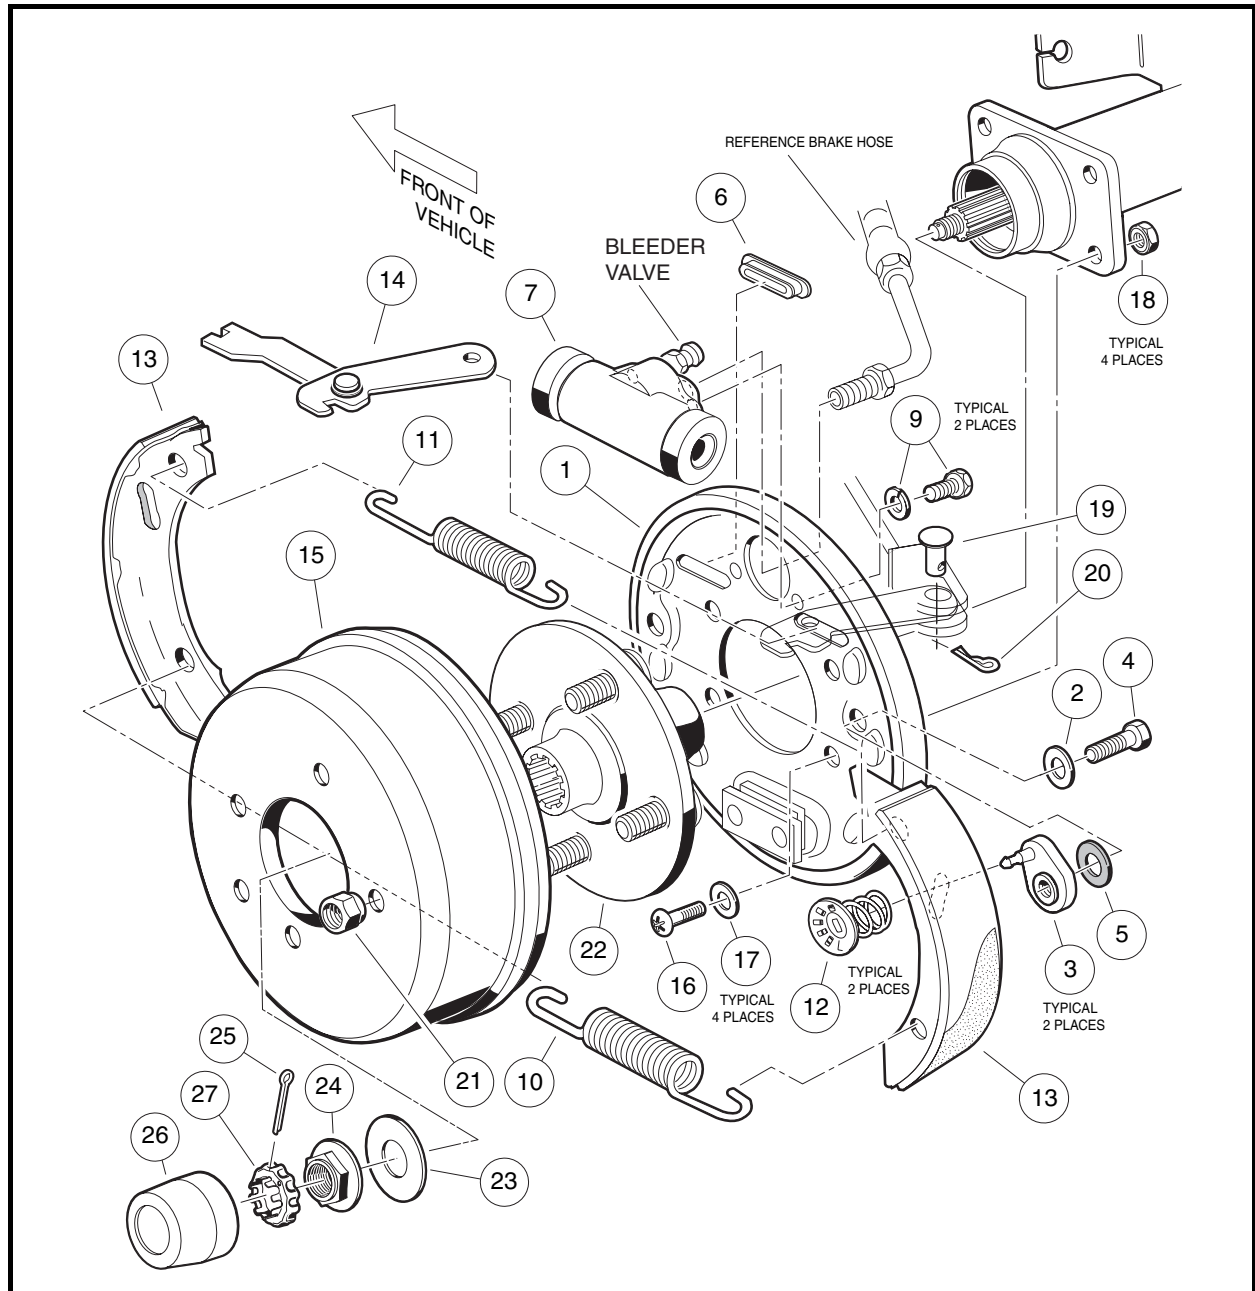

Figure 6-19 Rear Hydraulic Brake Cluster Assembly
1. Place the brake drum (15) onto the wheel bolt flange and brake cluster (**Figure 6-19, Page 6-21**). See following **NOTE**.
- Do not apply more than 65 in-lb (7.3 N·m) of torque to any of the adjuster bolts. Overtightening the adjuster bolts could result in damage to the brake cluster components or the separation of the bolt (4) from the adjuster (3) (**Figure 6-1, Page 6-2** or **Figure 6-19, Page 6-21**).
5. Install the wheel and finger-tighten the lug nuts (21) **(Figure 6-19, Page 6-21)**.
8. Use a Torx #T-40 driver and remove the four Torx-head bolts (16), washers (17), and locknuts (18) that secure the brake cluster back plate to the axle tube flange (**Figure 6-19, Page 6-21**).
1. Install the back plate to the axle tube flange with four new Torx-head bolts (16), washers (17) and locknuts (18). Tighten all four bolts to 76 in-lb (8.6 N·m) (**Figure 6-19, Page 6-21**). See following **CAUTION**.
5. Remove two bolts (9) and lockwashers that secure the wheel cylinder to the mounting plate (1), and remove the wheel cylinder (7) (**Figure 6-19, Page 6-21**).
4. Grip adjuster arm (3) with a pair of locking pliers and use a Torx #T-27 driver, or 7/16-inch socket to remove the bolt (4), flat washer (2) and Bellville washer (5) from the brake cluster back plate (1) (**Figure 6-19, Page 6-21**). Remove remaining adjuster assembly and discard all adjuster components (3, 4, 2, and 5) for both assemblies.
1. Install bolt (4) and flat washer (2) to the back plate (1) (**Figure 6-19, Page 6-21**).
2. Apply a light coat of grease to the Bellville washer (5) and install the washer onto the bolt (4) and against the inside surface of the back plate (1).
3. Carefully apply Loctite 222 to the threaded portion of bolt (4) and attach the adjuster arm (3). Position adjuster so that the brake mounting post is to the top of the back plate.
4. Grip adjuster arm (3) with a pair of locking pliers and tighten the bolt (4) to 115 in-lb (13 N·m).